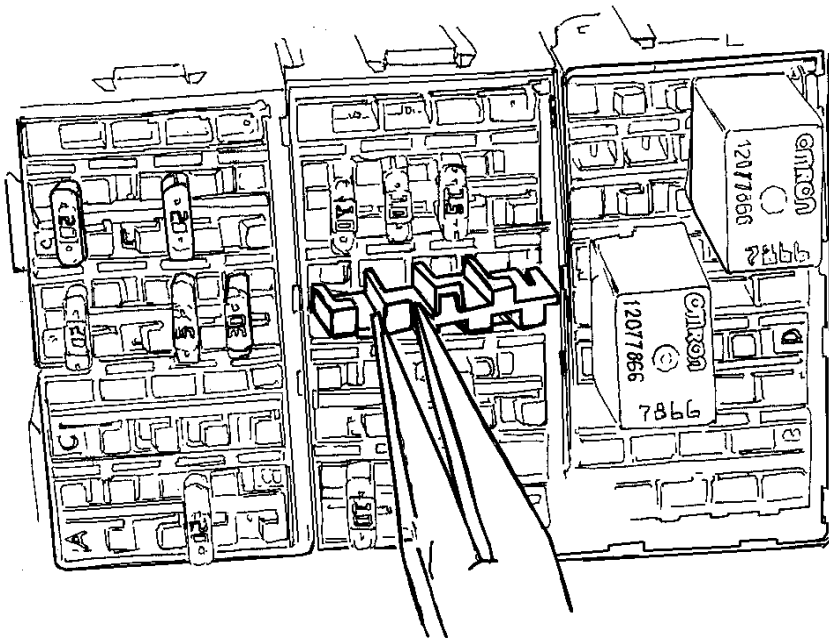

Figure 17 Install Retainer
19. Re-install the terminal retainer by pushing it down into place (Figure 17).